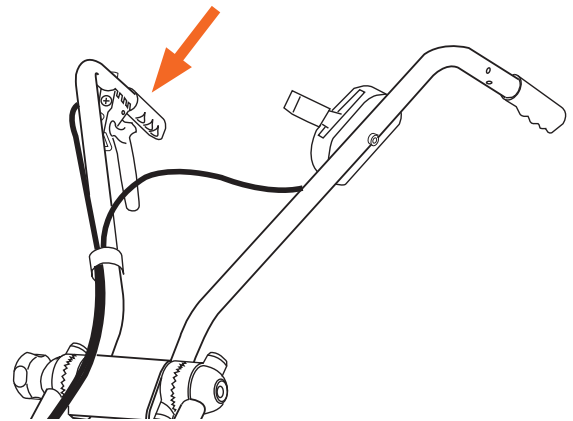

Figure 12
**Releasing the lever stops the tines** (see Figure 12).